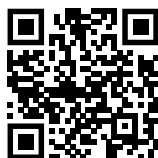

Fig. 180
- ▶ Aprire la Liebherr SmartMonitoring Dashboard. (vedere Fig. 180)